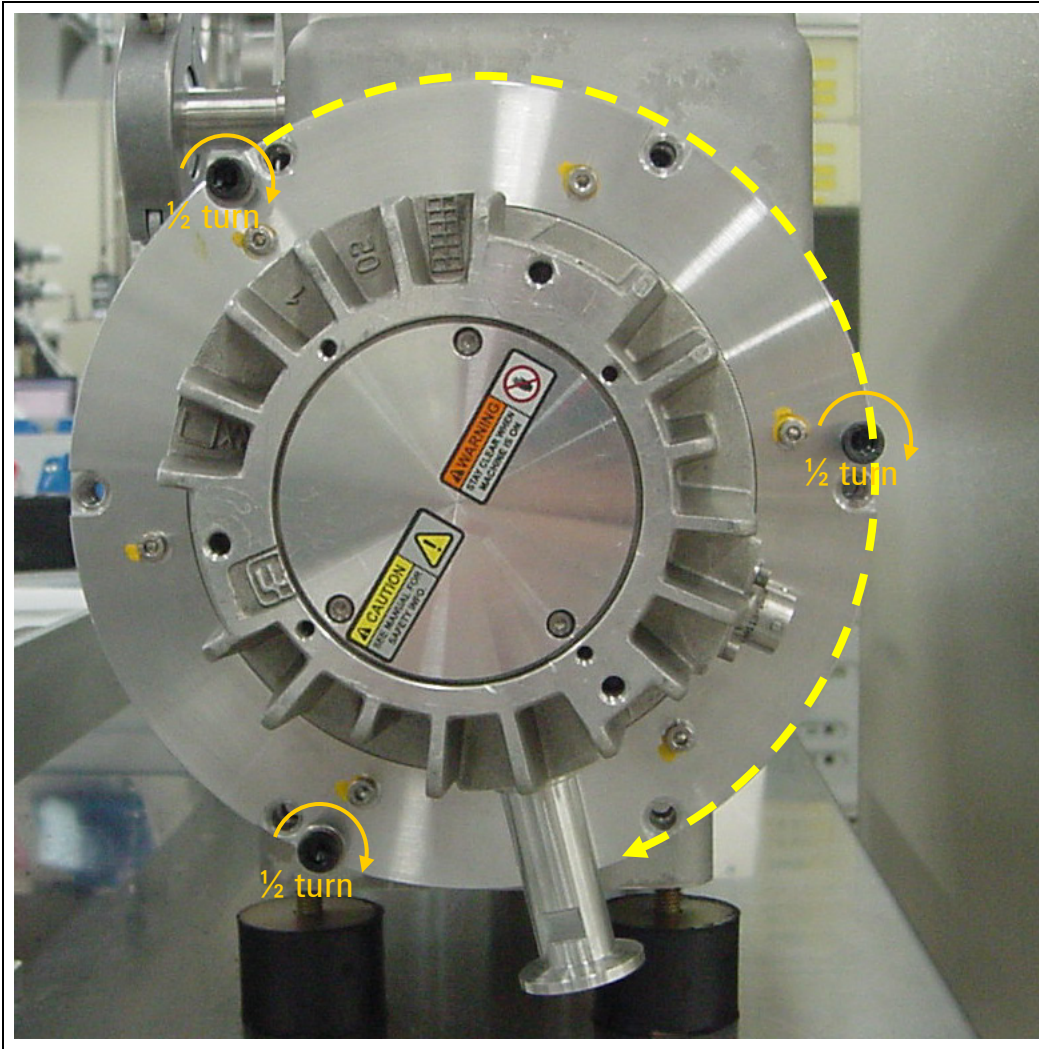

Figure 39
4. Screw in the 3 M6 screws clockwise, starting anywhere, half turn/lap (Fig. 39).